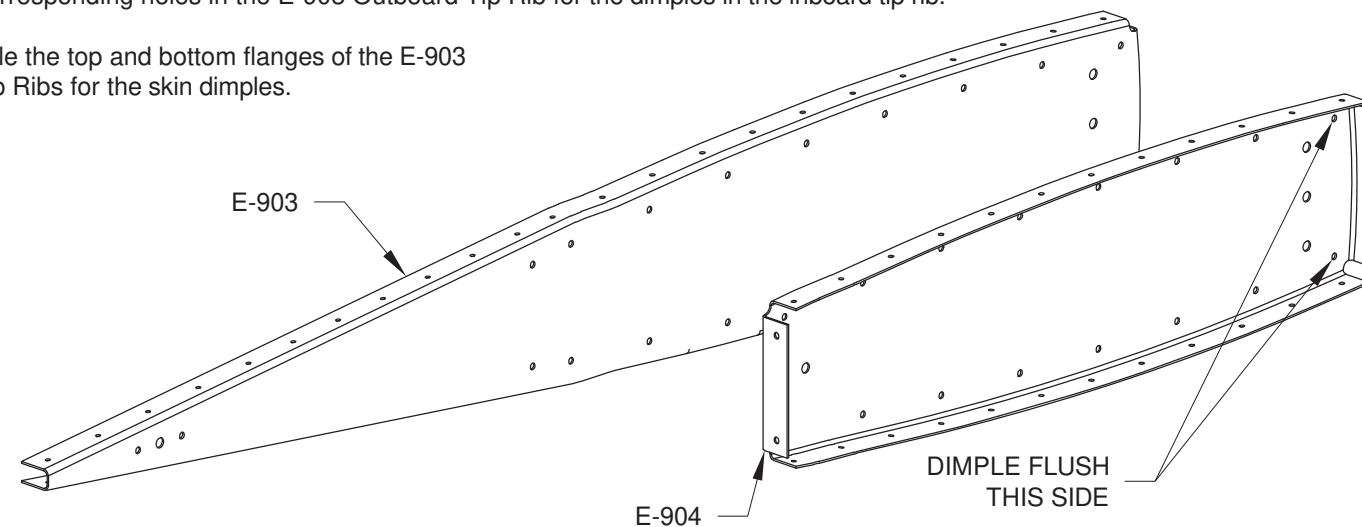

FIGURE 3: DIMPLING THE TIP RIBS
Step 3: Dimple the two holes, indicated in Figure 3, in the web of the E-904 Inboard Tip Rib for 1/8" flush rivets.